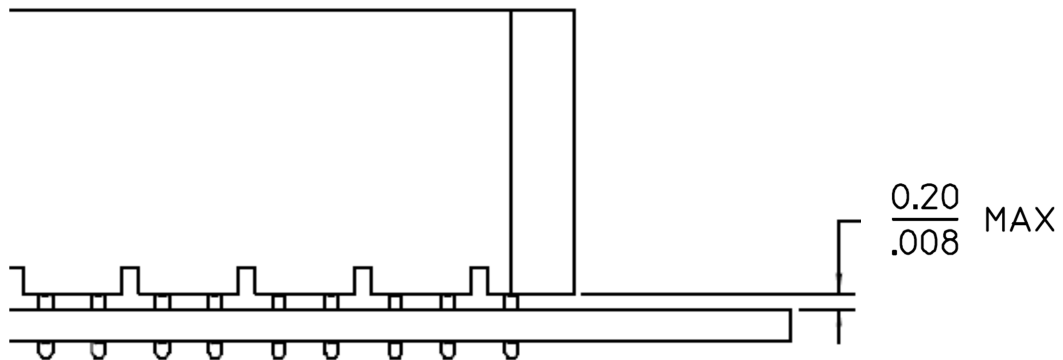

Figure 6.1: CONNECTOR SEATING DIMENSION
- 6.9 Check that connector is fully seated on the PCB and that all compliant tails were pressed in without any bent pins. See Figure 6.1.
- * The plastic shroud should be seated and flush to the PCB, a maximum allowable gap of 0.20mm is acceptable (see figure 6.1).